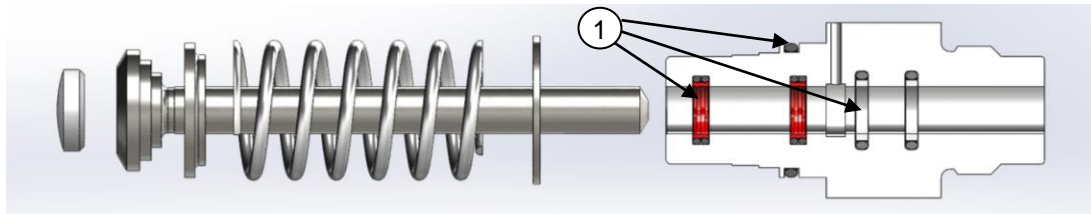

Figure 5 – Piston/Cylinder Assemblies
8. Remove each piston in turn and fit thrust washers & springs (as per figure 5).